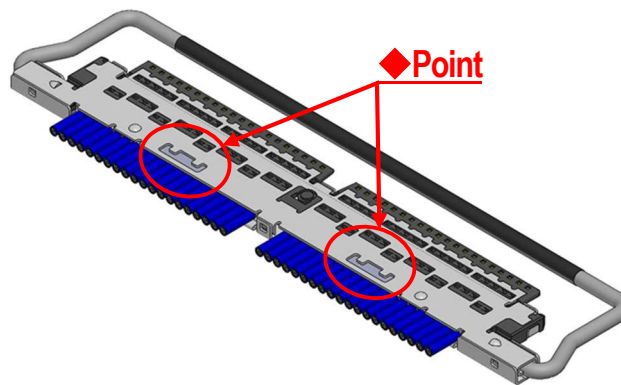

Fig.8 Soldering of SHELL-B and GND BAR
- ③ SHELL-B and GND BAR are soldered with the soldering iron at all designated points. (Fig.8◆ point)